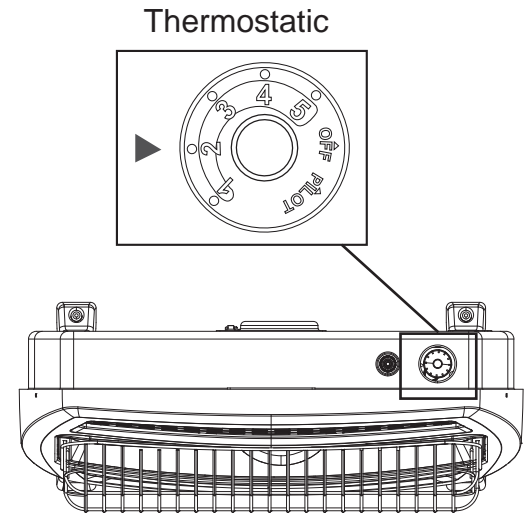

Fig. 25 - Control Knob Position
The thermostat used on this heater senses the room temperature. At times the room may exceed the set temperature. If so, the burner will shut off. The burner will cycle back on when room temperature drops below the set temperature. The control knob can be set to any comfort level between "HIGH" (5) and "LOW"(1) (See Fig. 25).